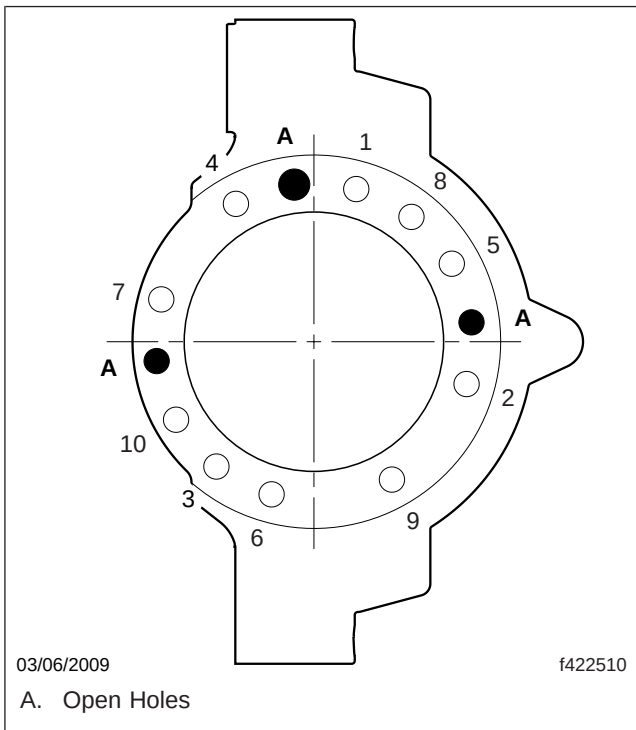

Fig. 3, Tightening Sequence
- Position the anchor plate on the axle flange with the ABS sensor hole at the 12 o'clock position on the axle flange. Install the ten capscrews, washers, and nuts, leaving the holes at 12, 3, and 9 o'clock positions empty. Tighten 144 to 164 lbf·ft (195 to 222 N·m), using the sequence shown in Fig. 3.